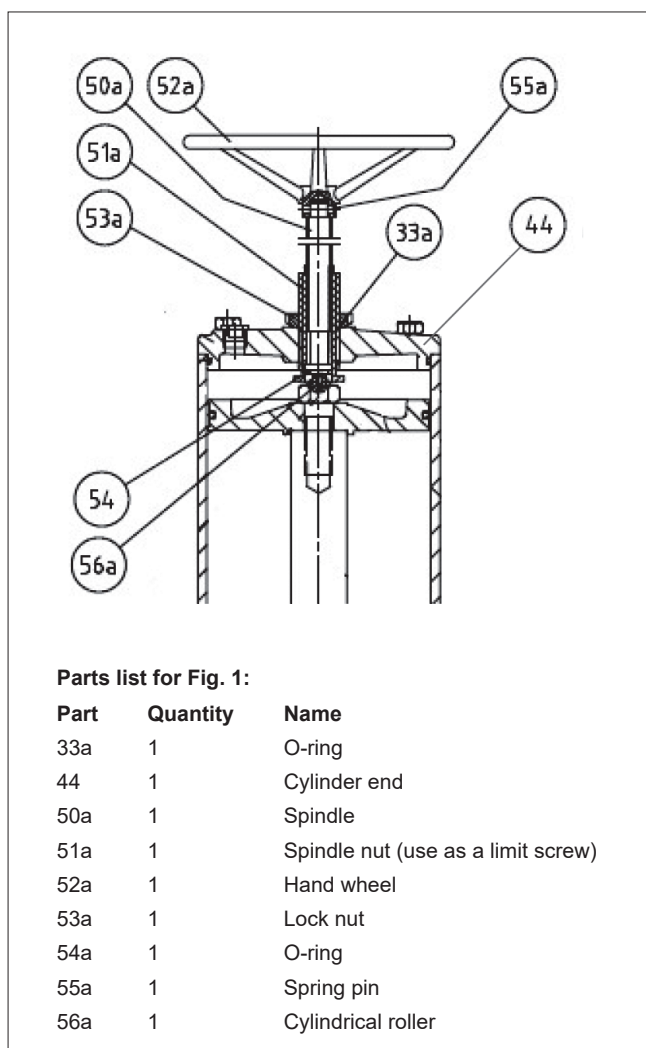

Fig. 1 B1C_K_ actuator
The **B1C actuator** can be changed into a B1C_K by replacing the cylinder end (44) accordingly and adding parts (33a, 50a to 56a), see Fig. 1.
The B1C actuator can be changed into a B1C_R by replacing the cylinder end (44) and housing (1) accordingly and adding parts (33a, 50a to 56b), see Fig. 1 and 2.
There is some air bleed through the spindle thread when the spindle (50a) with the O-ring (54a) is positioned inside the cylinder. I.e. when the valve has been manually operated to open position during compressed air loss and then the air pressure is restored. To stop the leakage operate the manual override to non-operated position. See Fig. 1 and 2
If air escapes between the spindle (50a) and spindle nut (51a), check the O-ring (54a) and replace it if necessary. Also check the condition of the cylindrical roller (56a). See Fig. 1 and 2. Other maintenance as described for the B1C actuator, see the IMO 6BC71en and the section 4.